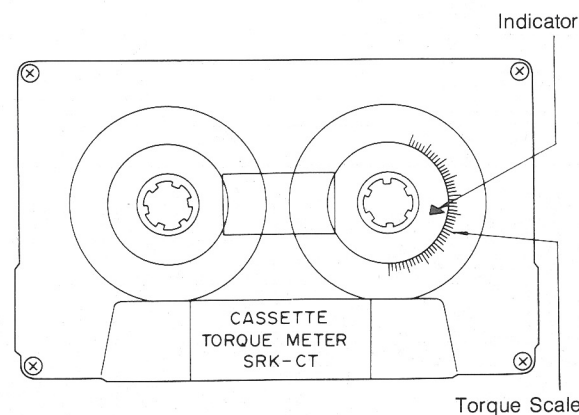

FIG. 15
4. Read "►" mark of indicator on take-up side, as shown in Fig. 15.